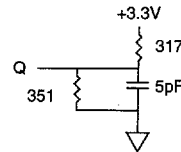

Fig. 2 OUTPUT LOAD EQUIVALENT
- Output loading is specified with $C_L = 5pF$ as in Fig. 2. Transition is measured $\pm 50mV$ from steady state voltage.
- The load used for V_{OH} , V_{OL} testing is shown in Fig. 2. AC load current is higher than the shown DC values.